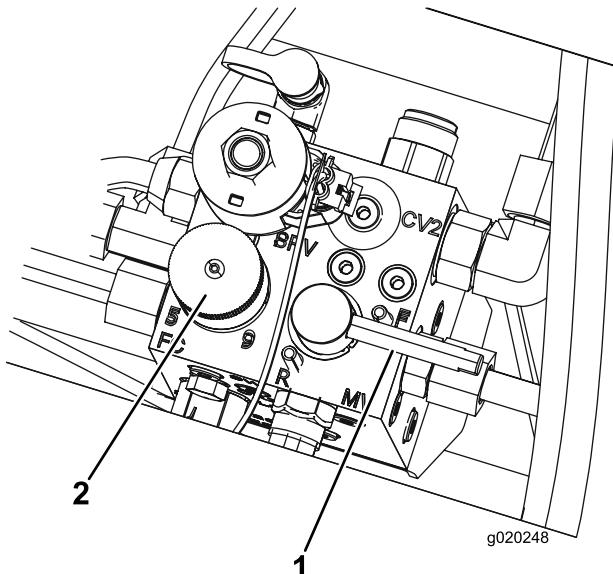

Figure 80
5. Set the reel speed control to position 1 (Figure 80).
6. Move the backlap lever to the R (backlap) position (Figure 80).